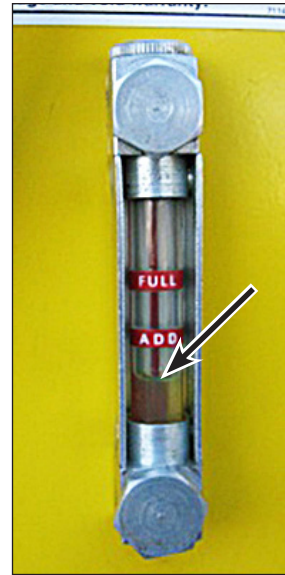

Figure 136: Typical Oil Level for Recently Operated Pumps.
The typical oil level for a pump that has been operating and then brought to a stop is shown in (Figure 136). The oil level will be at or near the full mark only after the pump has been at rest for 5 to 8 hours.
1. With the engine off and clutch disengaged, check the oil level in the PTO sight gauge (Figure 136). The oil should be approximately half way up on the sight gauge.
2. Remove the drain plug (Figure 136) and allow the oil to fully drain from the case.